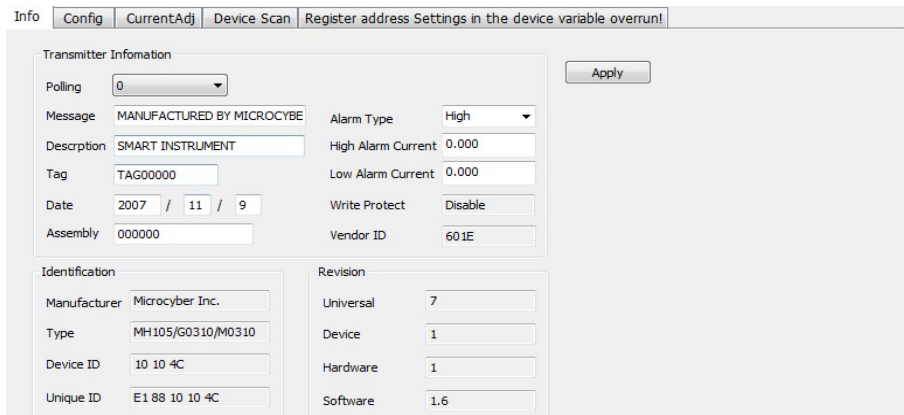

Figure 5.20 Basic information tab
- (1) The left mouse button clicks on an online device in the network view, and the right tab view displays the tabs associated with the device.
- (2) Click "basic information" in the right tab view, and if the information is obtained successfully, the basic information of the device is displayed, as shown in Figure 5.20.